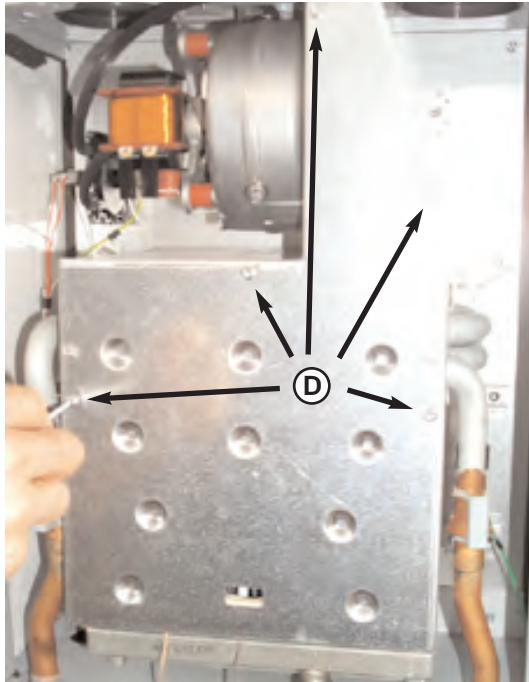

Fig. 46a
2. Unscrew five self tapping screws “D” to release the combustion chamber front panel and lift clear (for the 24kW see Fig. 46a, for the 30kW see Fig. 46b);